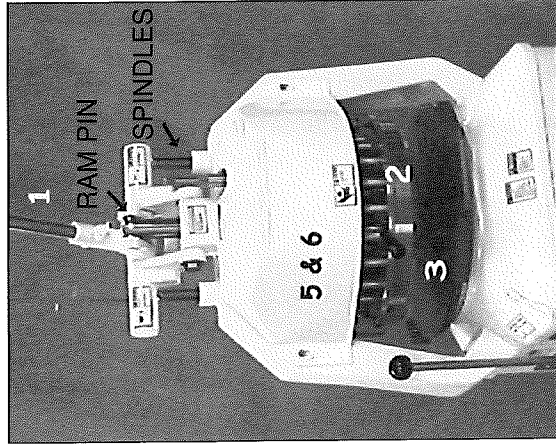

Figure 7
1. Remove front and rear canopies (Fig. 7, No. 5 & No. 6) by lifting up and out.
2. Pull handle (Fig. 7, No. 1), down until ring (No. 2) is resting on pallet (No. 3).